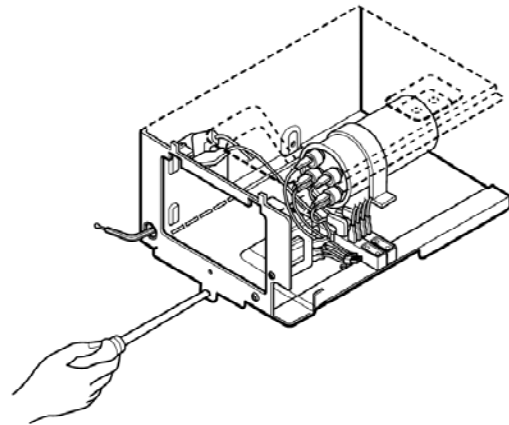

Figure 26
5. Re-install the components by refereing to the above removal procedure. (See Figure 26)